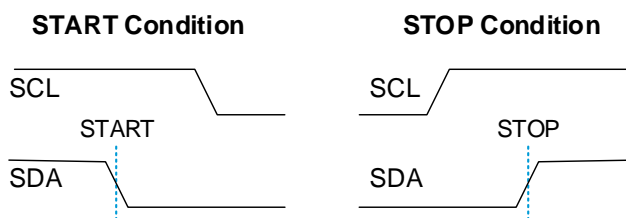

Figure 12. START and STOP Condition Waveform
The sensor transmission is initiated when the master sends a 0 START bit (S). The transmission is terminated when the master sends a 1 STOP bit (P). These bits are only transmitted while the SCL line is HIGH (see Figure 12 for waveforms).